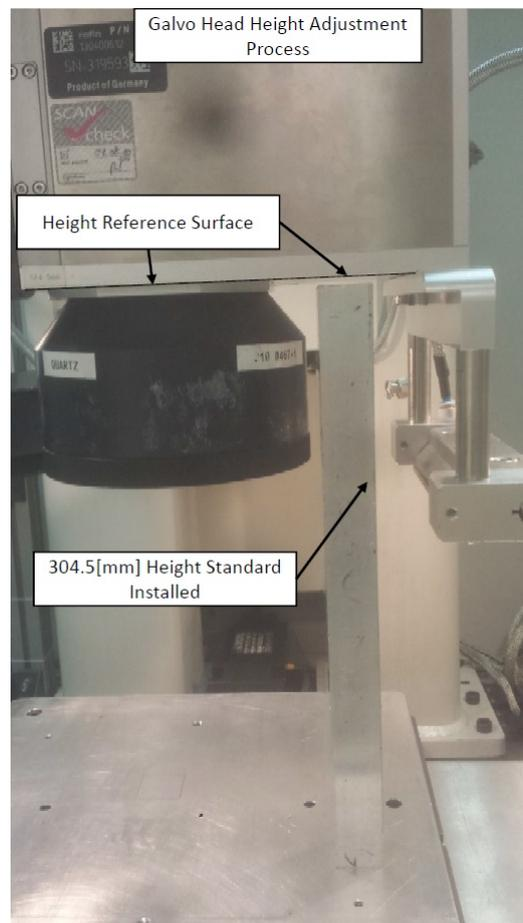

Figure 30: Focal distance setting procedure.
2. (Figure 30) Locate the height setting standard, a square aluminum bar cut down to 304.5[mm]. Install on your datum surface in a location that is aligned with the reference surface.